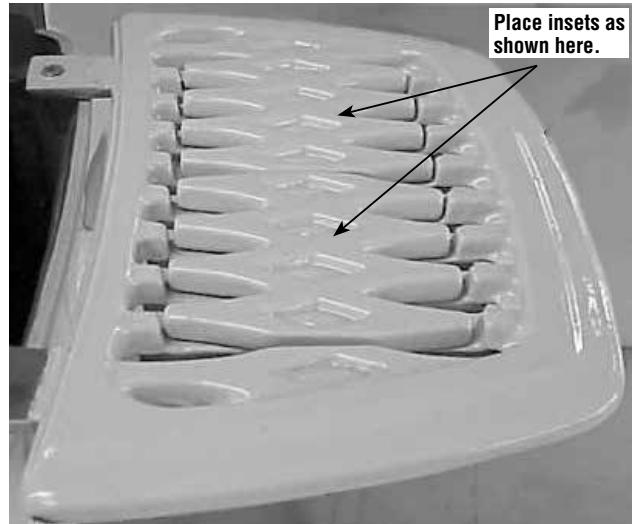

Figure 45 - Install Insets
4. Place the insets (4 ea. for the CI1500 series or 6 ea. for the CI2500 series) into the recessed areas on both warming shelves as shown in **Figures 45 and 46**. **NOTE: Common ceramic tiles (4-1/4" square) can be used in place of insets on the warming shelves (available at most home improvement stores).**